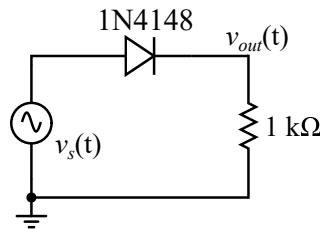

Figure 1: Half-wave rectifier circuit.
1. Build the half-wave rectifier shown in Figure 1 with the 1N4148 diode.